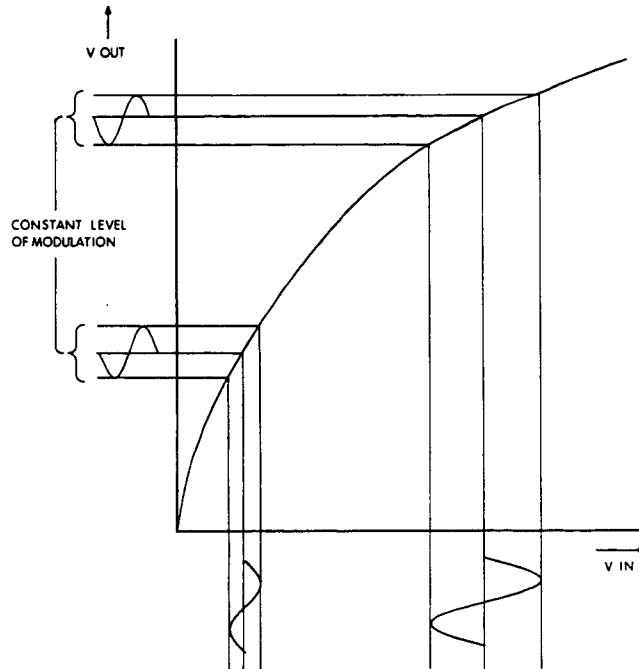

Figure A5-3 Typical Logarithmic Characteristic
- 1 A dynamic range compression (produces small changes in output voltages for large changes in input current) during dropout measurements (Figure A5-3 illustrates a typical logarithmic characteristic).